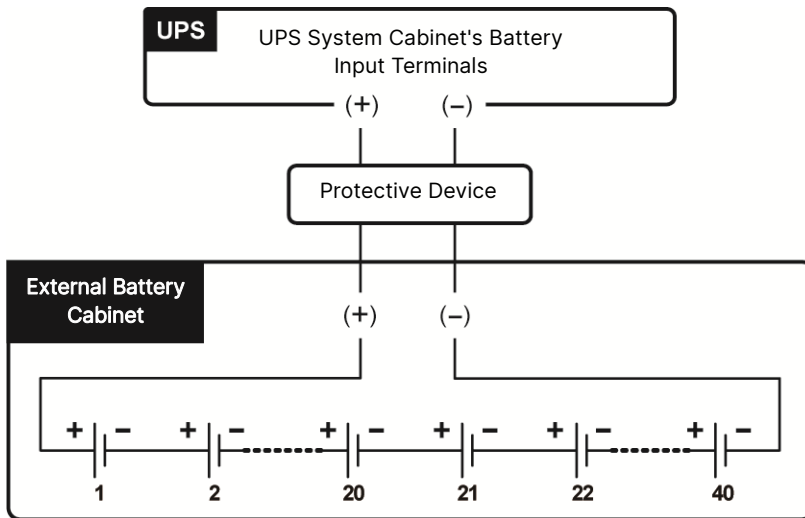

Figure 5-26: External Battery Cabinet Connection
- To connect the external battery cabinet(s) to the UPS, please refer to **5.4 Wiring** and **Figure 5-26**.